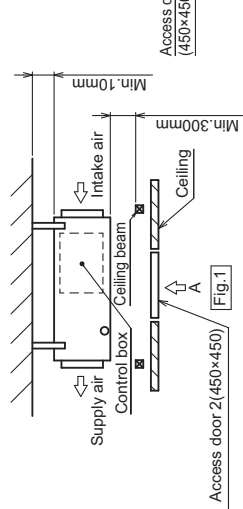

Fig.1
- (1) When a space of 300mm or more is available below the unit between the unit and the ceiling. (Fig.1)
- (1) When a space of 300mm or more is available below the unit between the unit and the ceiling, (Fig.1)
[Fig.1]